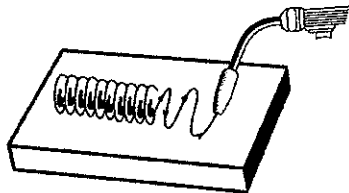

Figure 11. Weave Weld Bead
2. The **WEAVE BEAD** (Figure 11) is used when you want to deposit metal over a wider space than would be possible with a stringer bead. It is made by weaving from side to side while moving with the gun. It is best to hesitate momentarily at each side before weaving back the other way.